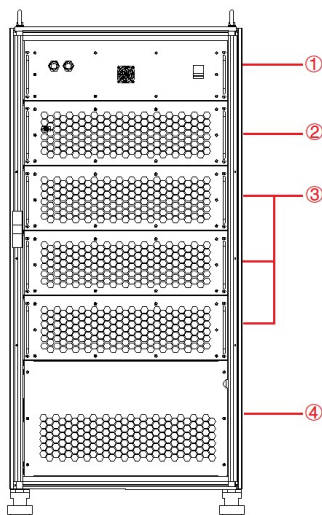

Figure 1-4 Internal structure
As shown in Figure 1-4, take KGS 45-300-50 as an example, from top to bottom, including: ① control module, ②③ power modules, ④ other components, wiring terminals and other interfaces.